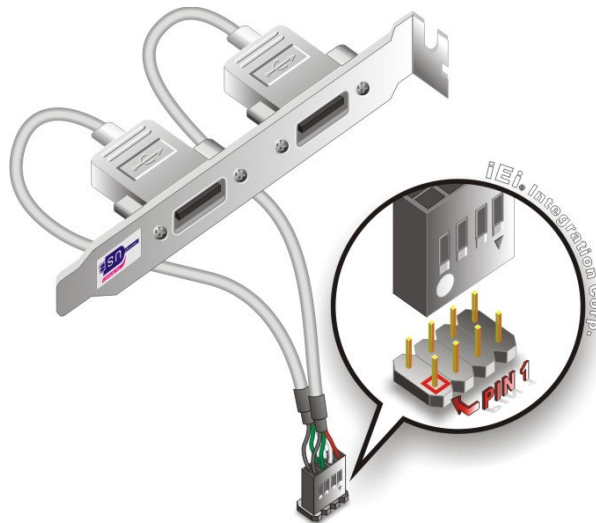

Figure 4-18: Dual USB Cable Connection
Step 3: **Insert the cable connectors.** Once the cable connector is properly aligned with the USB connector on the NANO-CV-D25501/N26001, connect the cable connector to the on-board connector. See **Figure 4-18**.